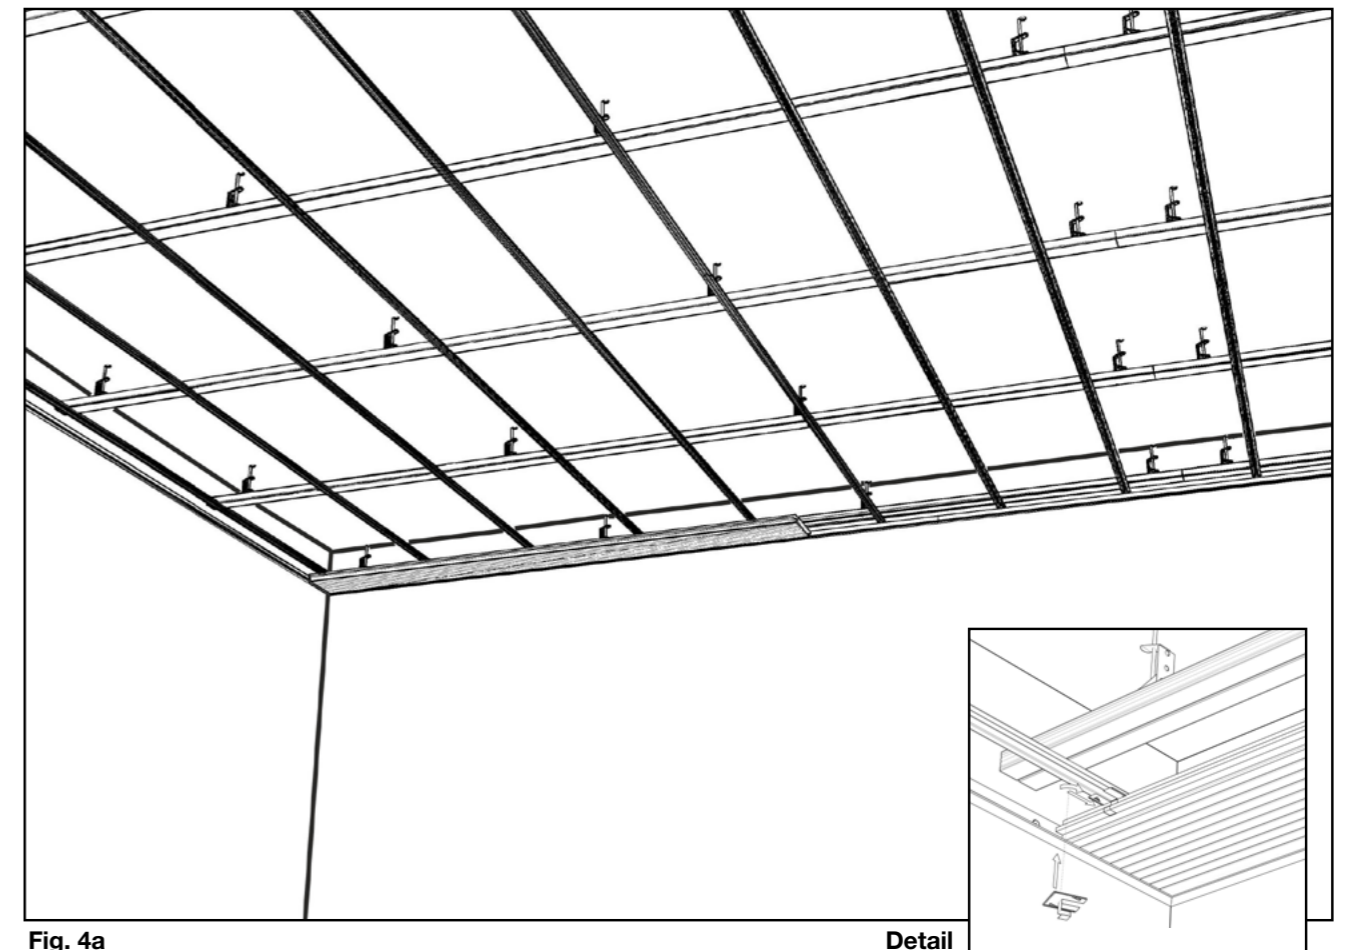

Fig. 4a
**Fig. 4a** shows the installation of the acoustic elements with the Admonter Acoustic fastening system.